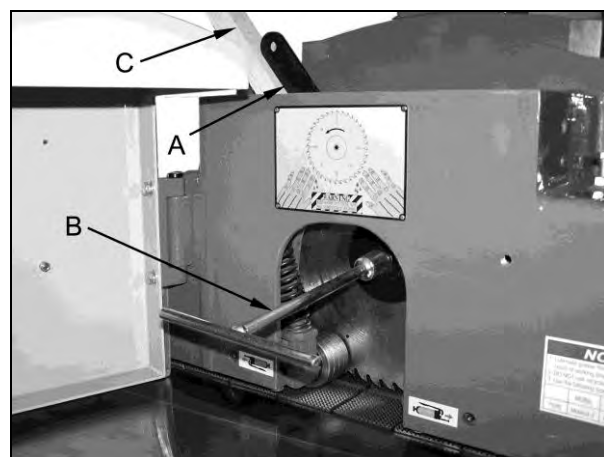

Figure 4
4. Use the supplied arbor wrench (A, Figure 4) and arbor bolt wrench (B, Figure 4) to loosen the arbor bolt. Use a block of wood (C, Figure 4) to support the arbor wrench for better stability. Remove the bolt and damper.